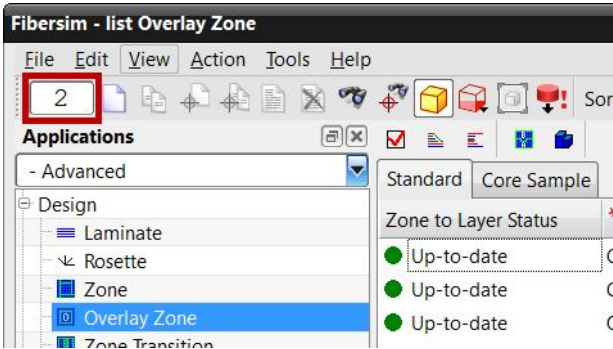

Figure 9–16
- 2. Enter [2] in the object counter as shown in Figure 9–16.